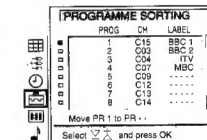

Fig. 16
- 5 Using  $\Delta$  or  $\nabla$ - select the programme position to which you want to move the channel of the programme position selected in step 4 and press OK. Now the programme positions have been sorted. (See Fig. 16.)